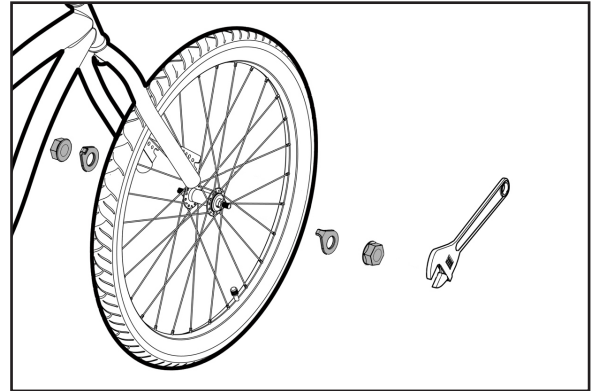

Figure 24
Loosen or remove the axle nuts and washers from the front wheel. Place the front wheel into the fork, making sure it is completely seated and even. Insert the wheel in the dropouts, place the locking washer on the axle, line up the tab on the retainer clip with the corresponding hole in the drop out. Place the locknut on the axle after the retainer clip and tighten the lock nut with (B) Adjustable Wrench (see Figures 24 & 25).